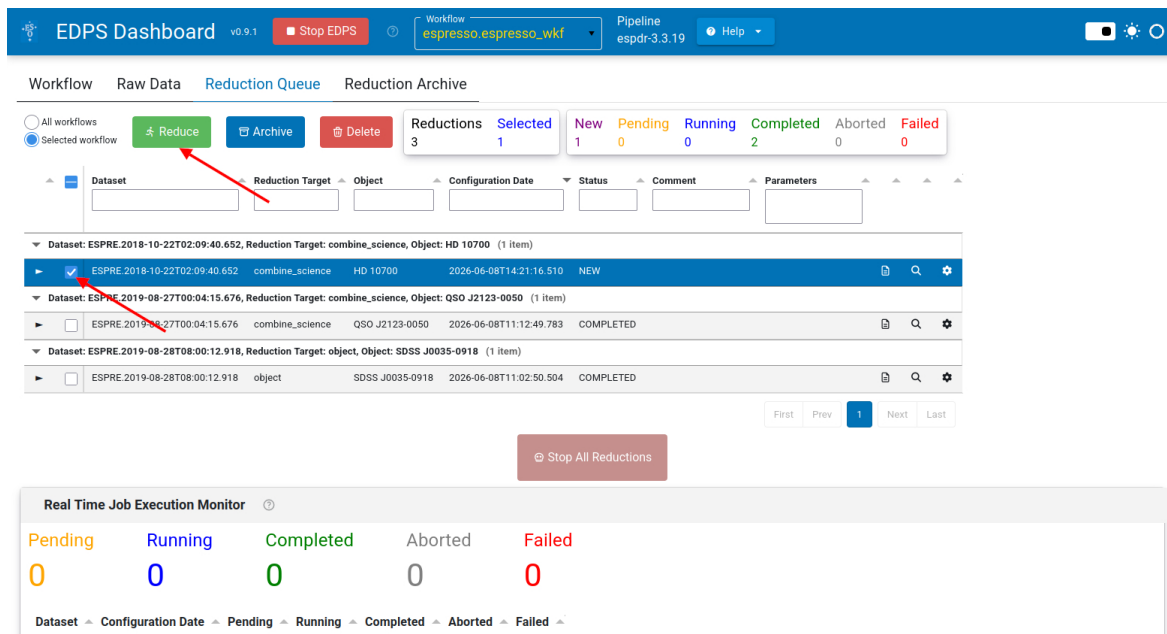

Figure 10: Reduce.
4. Press the 'Reduce' button (Figure 10). The selected data will now be processed with the configured parameters.